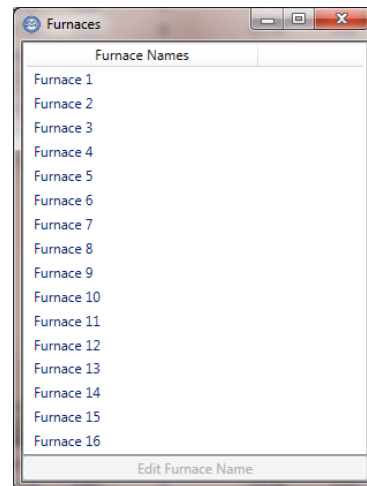

Figure 56 - View Furnaces option
**View Furnaces** (Figure 56). Selecting this option will display the list of Furnace Names that can be applied to a test result when the test result is being saved on the CAT-100. The **Edit Furnace Names** option allows you to change a selected Furnace Name. There is a maximum of 16 furnace names, each with a maximum of 32 characters in the name.